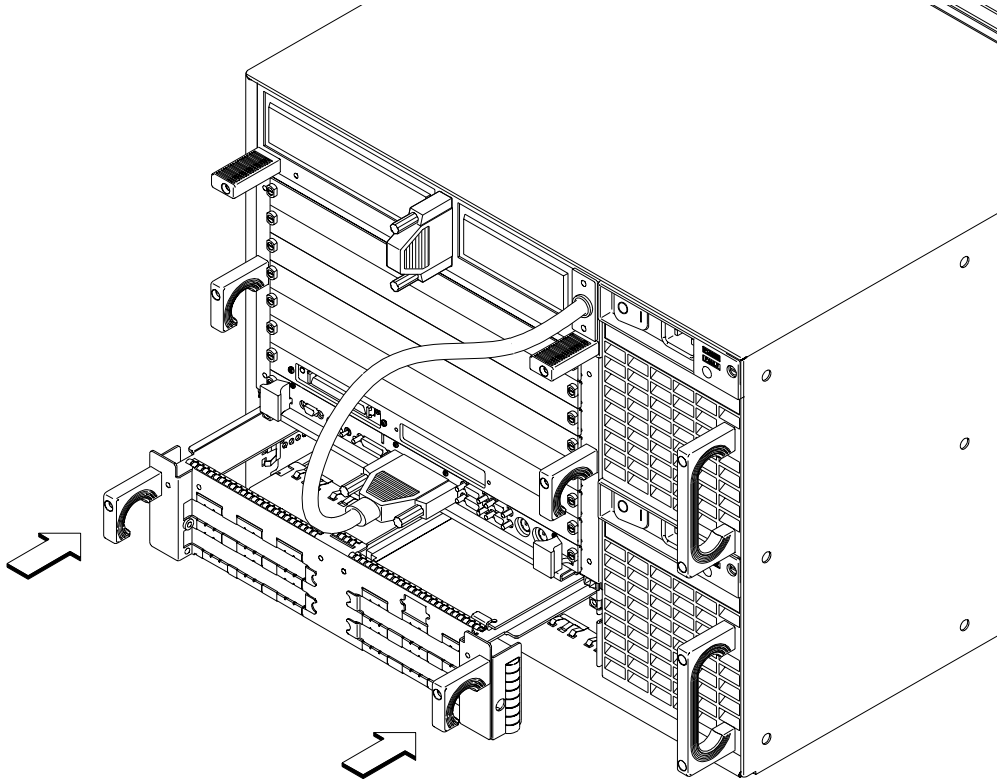

Figure 5-5 **Installing the PCI Module into the VMEbus Chassis**
- Slide the PCI module into the VMEbus chassis, as shown in Figure 5-5, and tighten its handle screws.